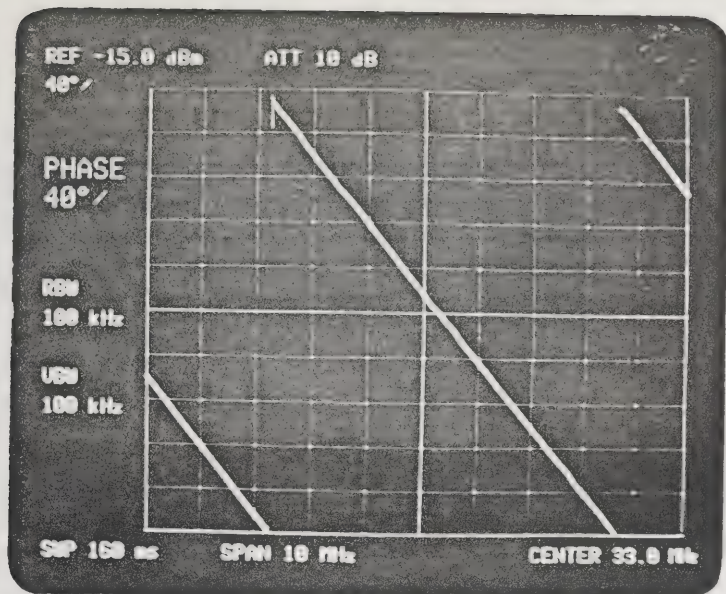

Fig. 7-3 Through phase response
- (4) Disconnect the device under test from the measuring setup and connect the input and output cables using an inline plug adapter to check the through frequency response.
- (5) The through phase response can be observed by pressing the PHASE key (Figure 7-3).